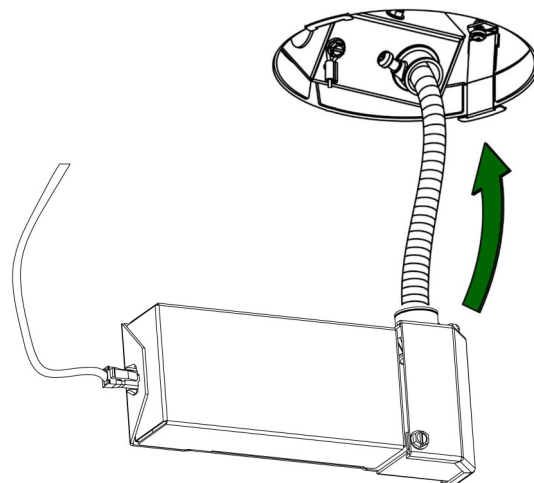

Fig. 10
- Push the supply conduit and splice box through the aperture and into the plenum space, followed by the driver assembly and LED assembly (Fig. 10).